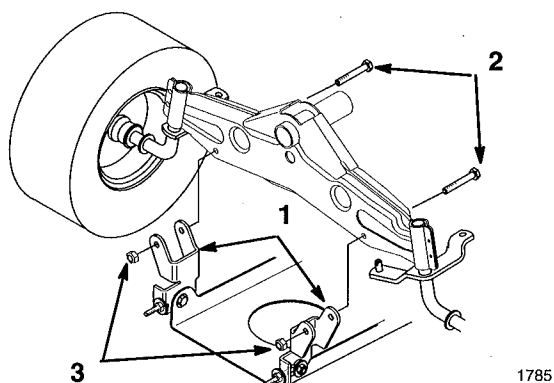

Figure 40
8. Remove the bolts and lock nuts and pull the two mower pivot mount brackets down from the front axle (Fig. 40).